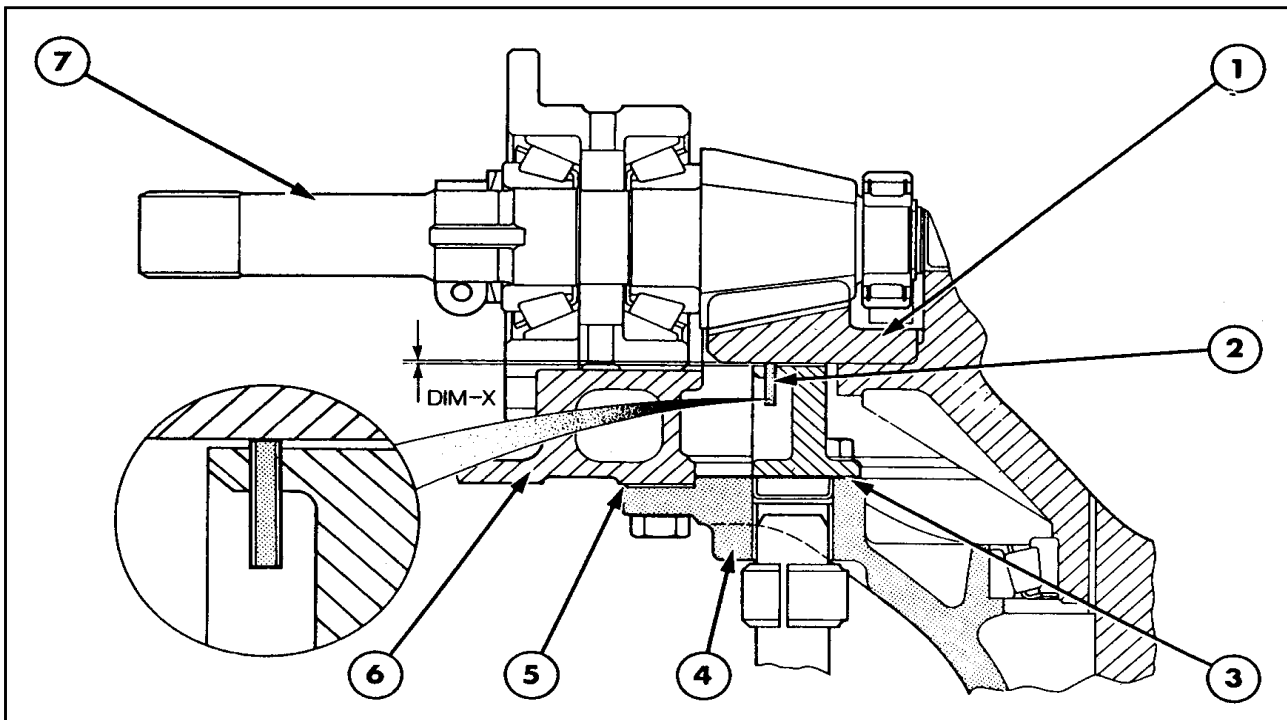

Figure 10
2. With reference to Figure 10, reassemble the left-hand rear axle housing to the centre housing (using gasket Part No. C5NN-4885). Tighten the bolts to the specified torque.